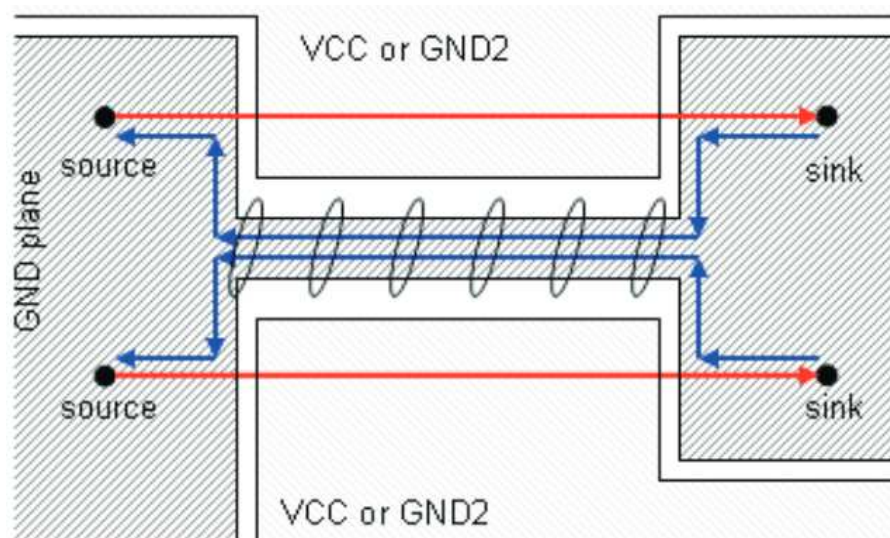

Figure 19. Crosstalk Induced by the Return Current Path
- With a proper signal routing, crosstalk also can arise in the return current path due to discontinuities in the ground plane. Always take care of the return current (Figure 19).
For Figure 19, do not route a signal referenced to digital ground over analog ground and vice versa. The return current cannot take the direct way along the signal trace and so a loop area occurs. Furthermore, the signal induces noise, due to crosstalk (dotted red line) into the analog ground plane.